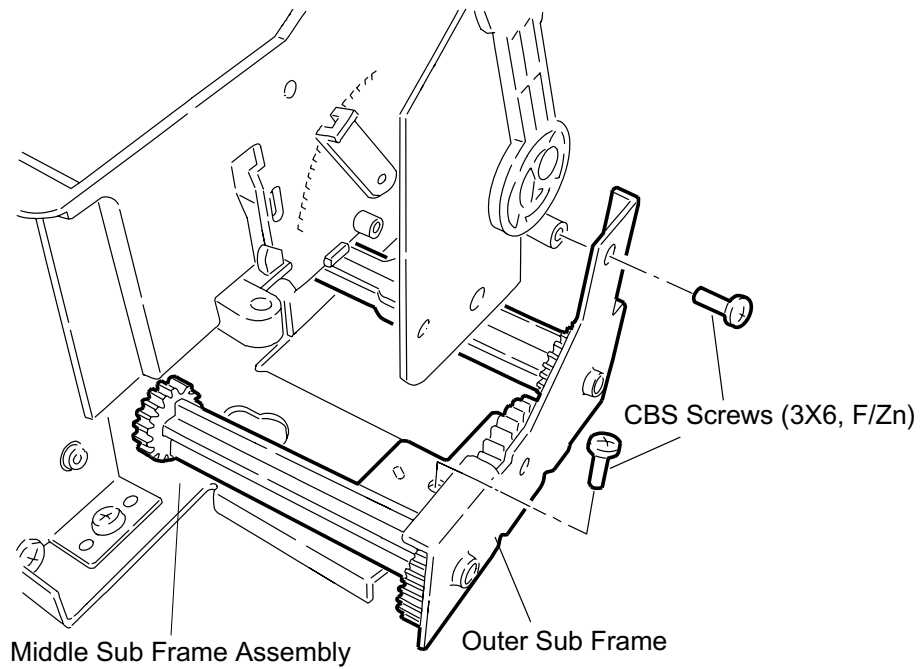

Figure 3-41. Outer Sub Frame Assembly Removal
2. Remove 2 screws (CBS, 3x6, F/Zn) securing the outer sub frame assembly to the middle sub frame assembly and to the slider shaft respectively. Then remove the whole outer sub frame assembly with the pump drive gear and the pump reduction gear. (Refer to Figure 3-41.)